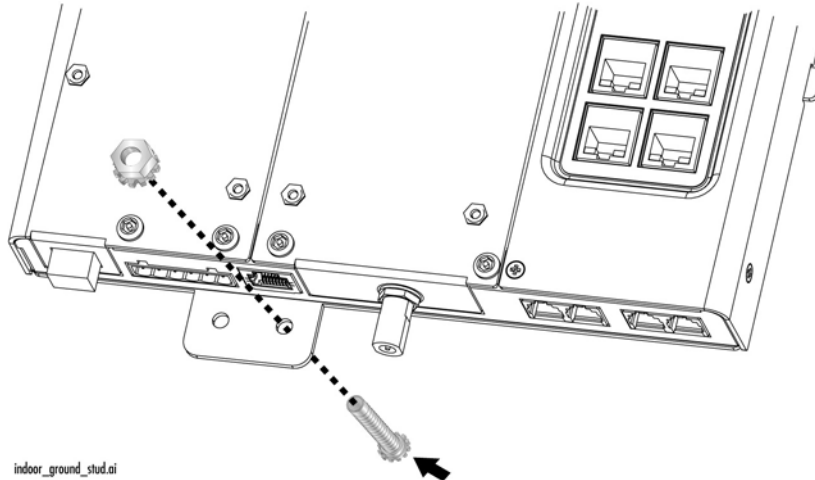

Figure 17. Mounting the Grounding Assembly on the **Right** Mounting Hole
1. Put the included #8-32 x 0.5 in. SEMS screw through the **right** chassis grounding hole in the chassis, as shown in Figure 17
2. Secure the screw with a #8-32 Kepnut (not provided), as shown in Figure 17.